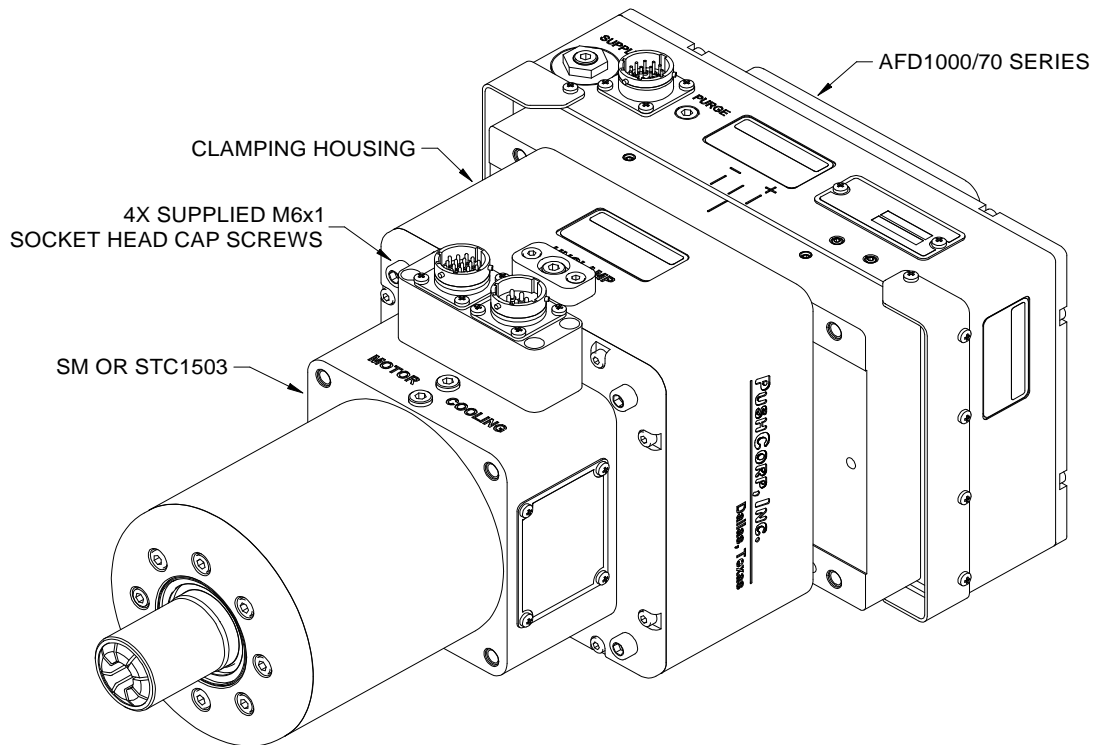

Figure 2. 1503 Perpendicular-Axis Configuration
To attach the 1503 to an AFD in a Perpendicular-Axis configuration, position the Clamping Housing/Mounting Plate over the Carriage as shown in Figure 2. Then secure the unit using four (4), M6x1 Socket Head Cap Screws (length is dependent on motor SM1503 = 25mm, STC1503 = 100mm, STC1503-BT30 = 145mm). Tighten the fasteners to the torque specified in Section 4.0. 5mm Dowel pins can be inserted and glued into the Carriage to align the 1503. The Clamping Housings and Mounting Plate have pre-drilled clearance dowel holes for this configuration.